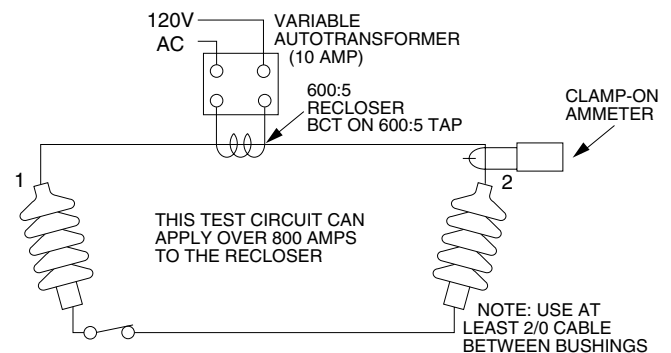

Figure 5.
The minimum trip level selected on the control can be verified by using the manual closing tool to close the recloser while it is de-energized, and then applying test current, and tripping the recloser with the low-voltage ac source. Assemble and connect the low-voltage test portion of the set-up shown in Figure 5 and proceed as follows:
2. Connect the low-voltage test leads to the recloser bushings as shown in Figure 5.